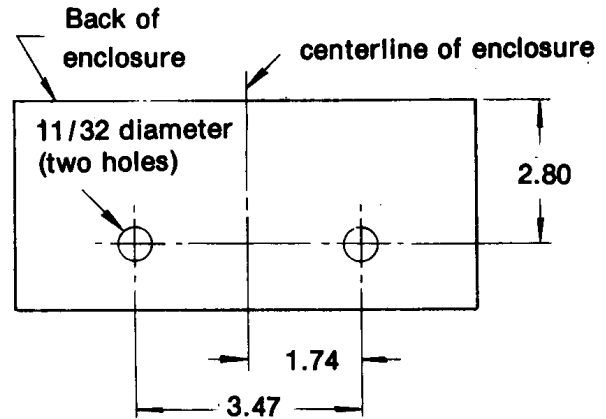

Figure 1 — Drilling Enclosure
c. If reservoir and enclosure are not predrilled: Caution—do not drill into reservoir as metal chips will contaminate hydraulic fluid resulting in damage to pump. To mount enclosure, mark hole positions on enclosure—see Figure 1 for dimensions. Drill 11/32" holes. Attach T-bracket for hole positioning— See Figure 2, Ref. no. 3. With edge of cutout as guide, mark both sides of enclosure. Mark reservoir through enclosure holes. Caution: Do not drill into reservoir. Drill 11/32" holes into flange of reservoir. Attach enclosure to reservoir as in step a. Remove hood.